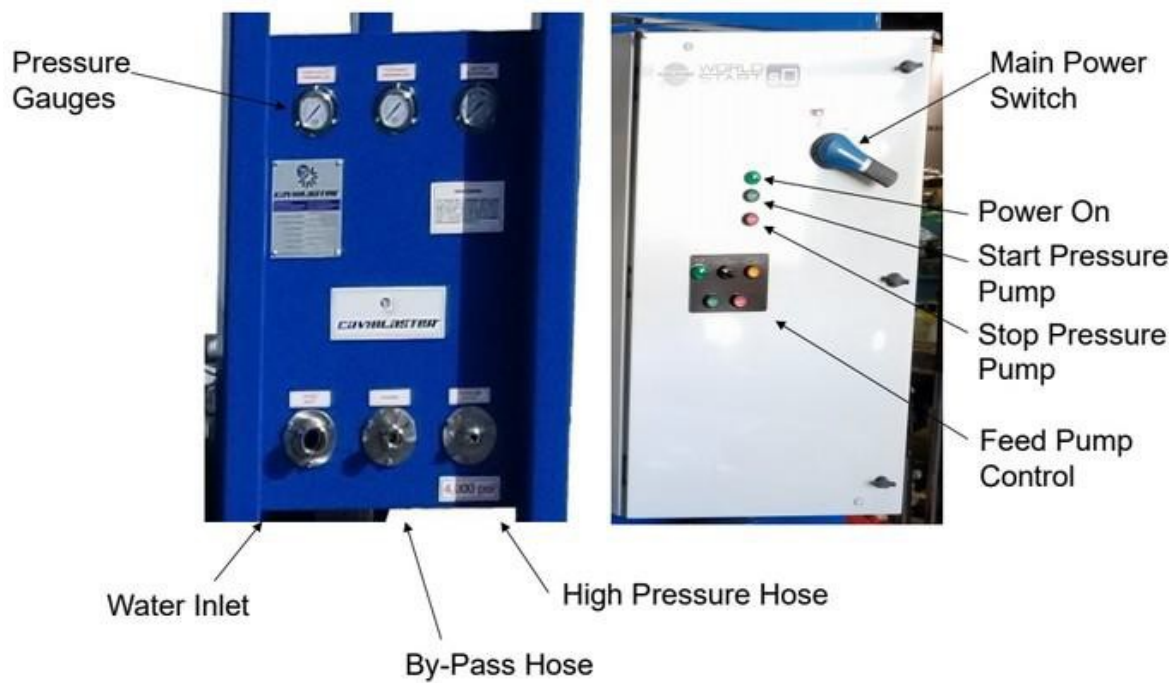

Figure 2.2 – CaviBlaster 3040-E60 Control Panel
10. Connect the bypass hose (See **Figure 2.2**).
11. Connect the pressure hose (See **Figure 2.2**).
Attention to priming the system is necessary. The feed water suction hose inlet connection is located on the water connection panel (See **Figure 2.2**). The (clear) suction hose should be straight and at a slight downward angle from the inlet connection on the water connection panel, with no “humps” in the hose so that trapping of air pockets and creating an air lock is minimized. During the priming cycle the suction hose should always remain below the height of the inlet connection unless connecting with a positive pressure water source.
2. Ensure the E-Stop button is pushed "IN" so that the power supply has been disconnected. (See **Figure 2.2**).
3. Connect the cam-lock socket on the 1-1/2" clear PVC feed hose to the water inlet connection on the control panel (See **Figure 2.2**). Place the other end of the hose in the water supply.
2. Ensure the E-Stop button is pushed "IN" so that the power supply has been disconnected (See **Figure 2.2**).
4. Connect a 1-1/2" cam-lock socket on the water supply hose to the water inlet connection on the control panel (See **Figure 2.2**). Confirm system is primed.
1. Locate the water supply tank so that the outlet of the supply tank is higher than the water inlet on the control panel (See **Figures 2.2 and 4.3**).
3. Ensure the E-Stop button is pushed "IN" so that the power supply has been disconnected (See **Figure 2.2**).